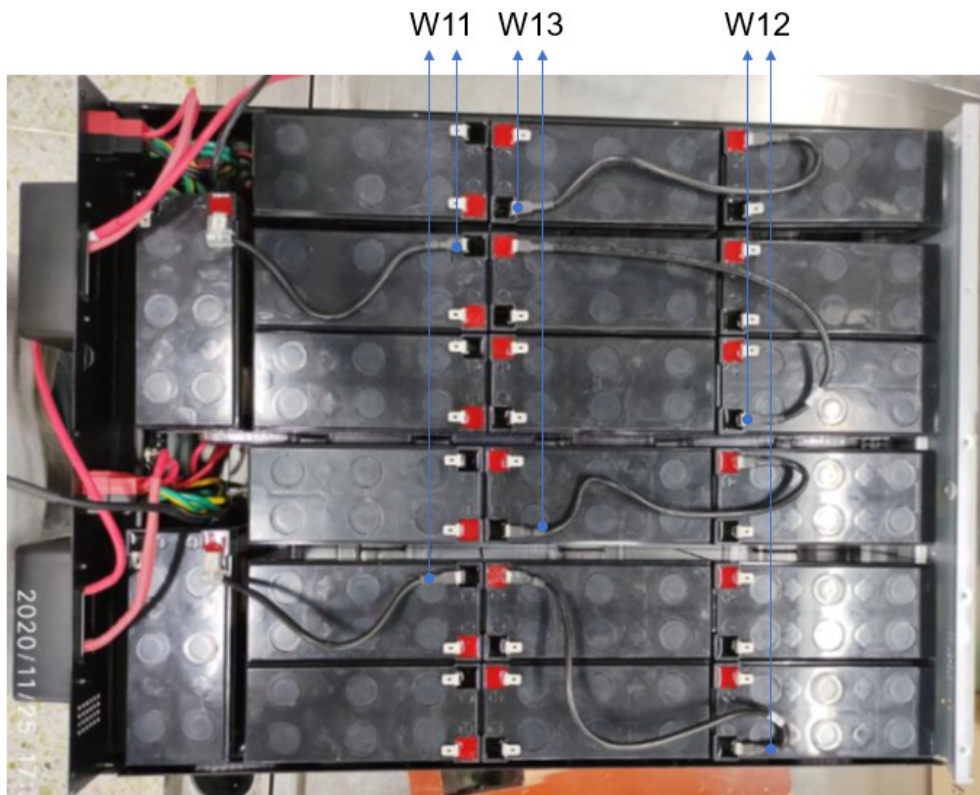

Fig 2-3
2.3). Connect the black battery wire11&12&13*2pcs refer to Fig 2-3: